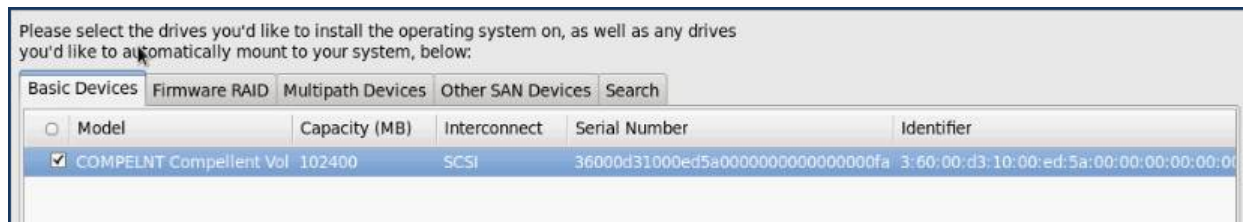

Figure 10-8. Selecting the Drives
11. At the **Please select the drives...** prompt, on the Basic Devices page, select the FCoE LUN. Figure 10-8 shows an example.